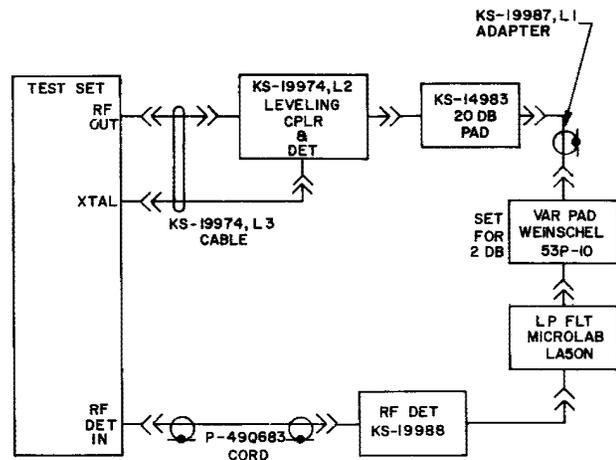

Fig. 2 – RF Transmission Setup
- (e) Make connections on the test set per Fig. 2.
- (aa) Repeat (o) through (z) with the output level set to +10 dbm. Replace the 20-db pad in Fig. 2 with a 10-db pad for this test.